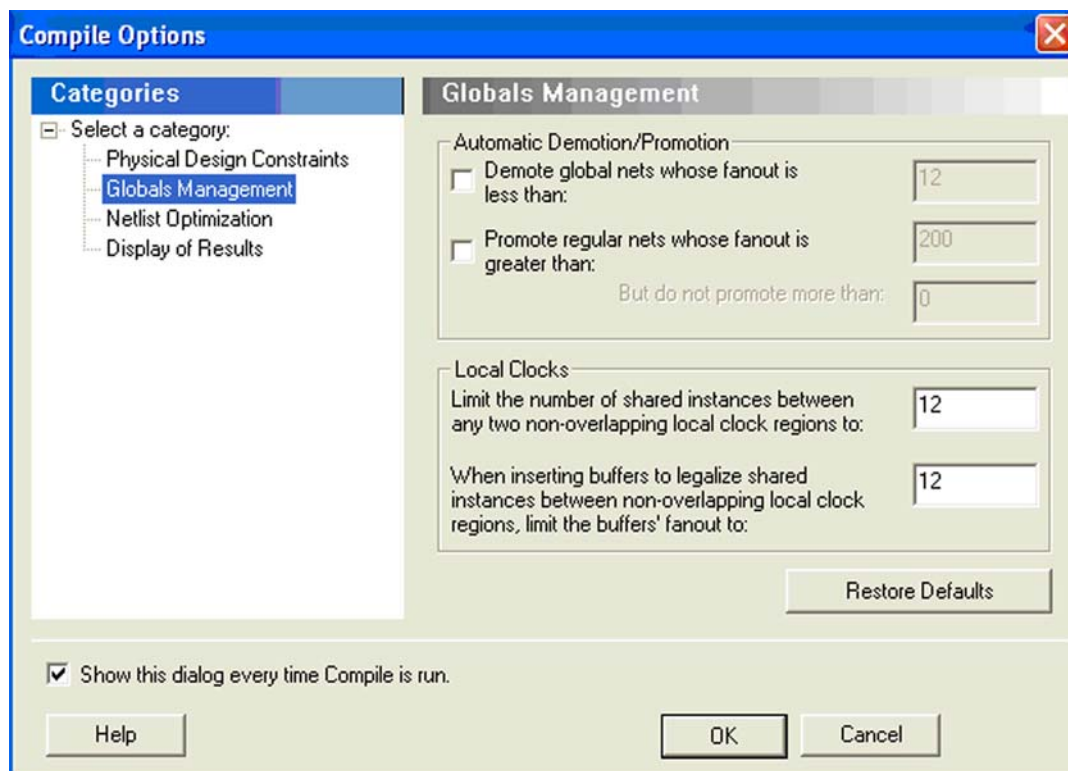

Figure 3-18 • Globals Management GUI in Designer
2. If some signals have a very high fanout and are candidates for global promotion, promote those signals to global using the compile options or PDC commands. Figure 3-18 on page 54 shows the Globals Management section of the compile options. Select **Promote regular nets whose fanout is greater than** and enter a reasonable value for fanouts.